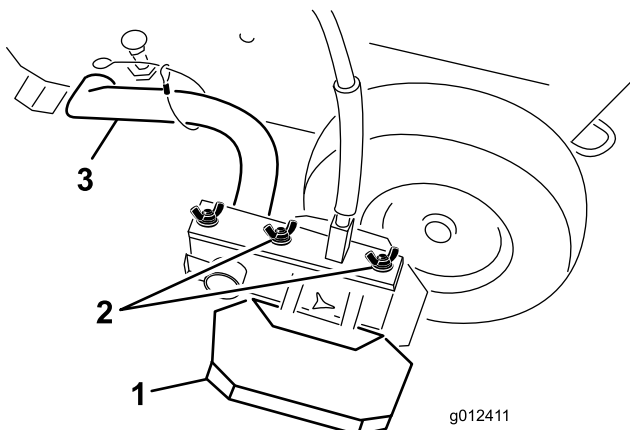

Figure 23
1. Loosen the wing nuts securing the spray shields to the boom arm (Figure 23).
2. Move the shields (Figure 23) in or out until the desired line width is attained. Make sure each shield is equal distance from the spray nozzle.